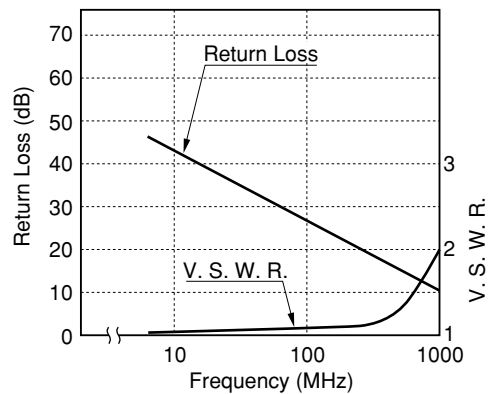

Figure 3.9 High-frequency characteristics
Figure 3.9 shows the performance of the EA2 series relay when a high-frequency signal is switched by the contacts of the relay. Figure 3.9 (1) shows the test circuit. Figure 3.9 (2) shows the isolation loss of the relay. Figure 3.9 (3) and Figure 3.9 (4) respectively show the insertion loss and return loss.
(1) Test circuit